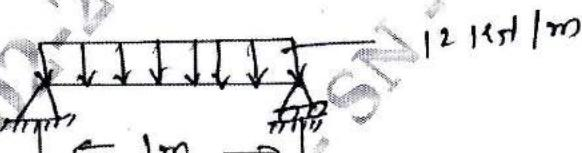

Fig. Q8 (b)
- b. Fig. Q8 (b) shows a simply supported beam subjected to a uniformly distributed load. Obtain the maximum deflection. Take Young's modulus $E = 200$ GPa and moment of inertia $I = 2 \times 10^6$ mm⁴.